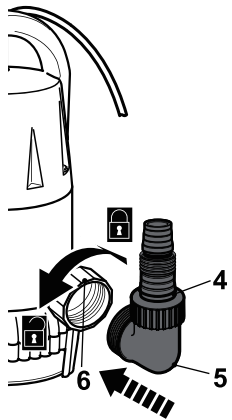

Fig. 2
- > Screw the adaptor (5) to the outlet nozzle (6) (Fig. 2). Tighten it properly.